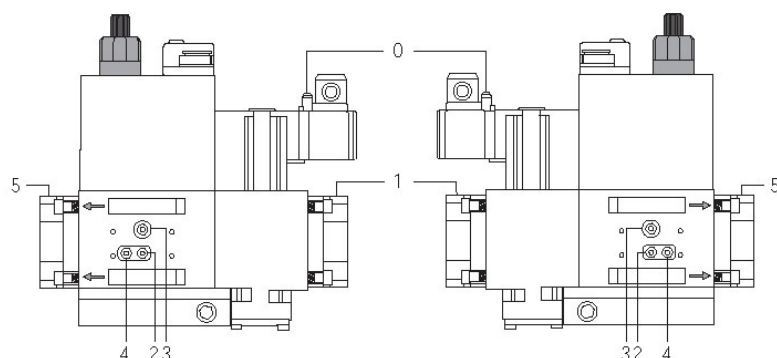
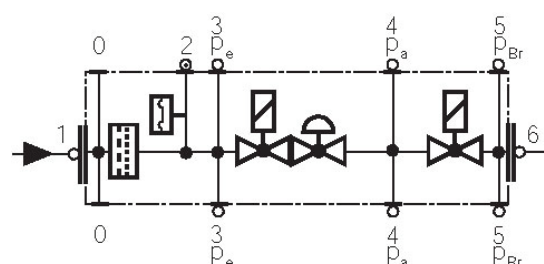

Fig. 19
Fig. 20
- Change the filter if the pressure difference between pressure connection 1 and 2 (Fig. 19-Fig. 20) $\Delta p > 10$ mbar.
- Change the filter if the pressure difference between pressure connection 1 and 2 (Fig. 19-Fig. 20) is twice as high compared to the last check.